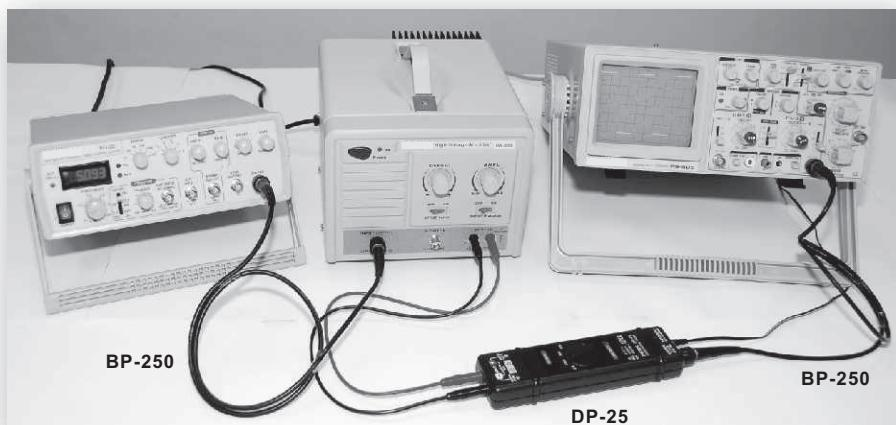

Figure 4.
- 5.2 Use Function Generator as input, and HA-205 output connects to Differential Probe as interface to transmit signal to oscilloscope to observe. (Figure 4.)